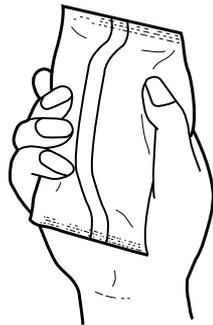

Figure 1.
- (1) Remove the tubing from the case's lid.
- (2) Turn the lid counterclockwise to open it.
- (3) Remove an old filter pack.
- (4) Open a new filter pack and follow the steps below, referring to the figures, to put it into the case.
- * Shape the pack into cylinders (Figure 1).